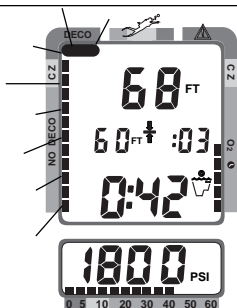

Fig. 68 - Delayed Violation (Required Stop > 60FT/18M)
2. Decompression requires a Ceiling Stop Depth 'between' 60 feet (18 meters) and 70 feet (21 meters). The Audible Alarm will emit one long beep and the Tissue Loading Bar Graph will flash. Total Ascent Time needed to get back to the surface will still be displayed (Fig. 68).